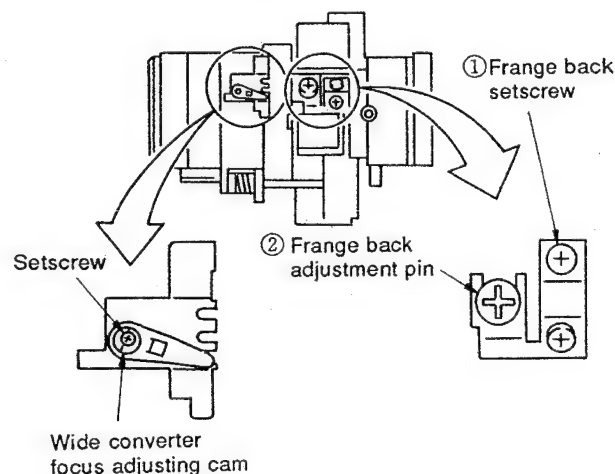

Fig. 4-12.
- 7) Loosen flange back setscrew ① with a Phillips screwdriver. (See Fig. 4-12.)
- 8) By turning the flange back adjustment Pin ② while watching the monitor screen, attain the optimum definition of a wedge at the Siemens star center on the screen. (Turn it a few times to the left and right to ensure optimum definition.)